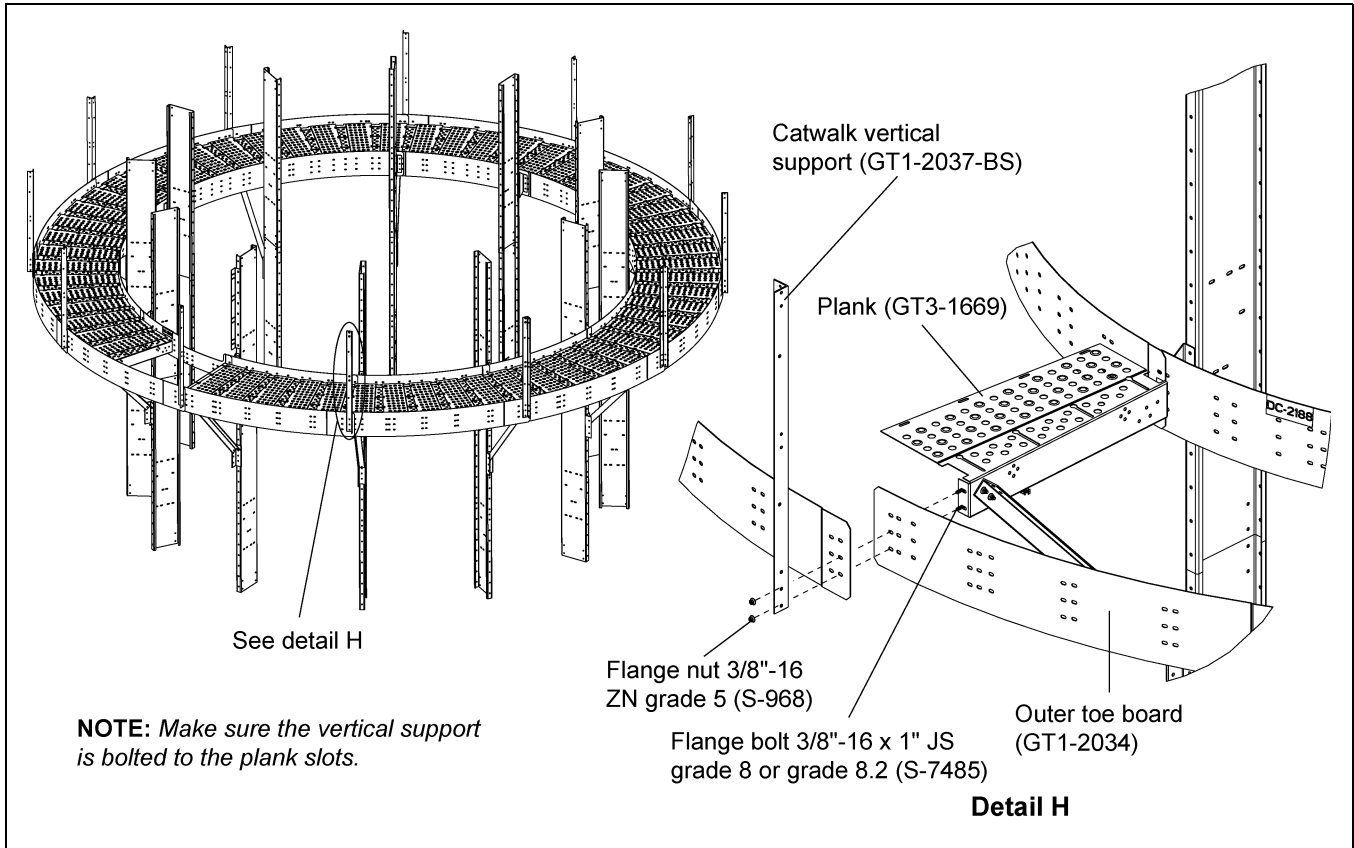
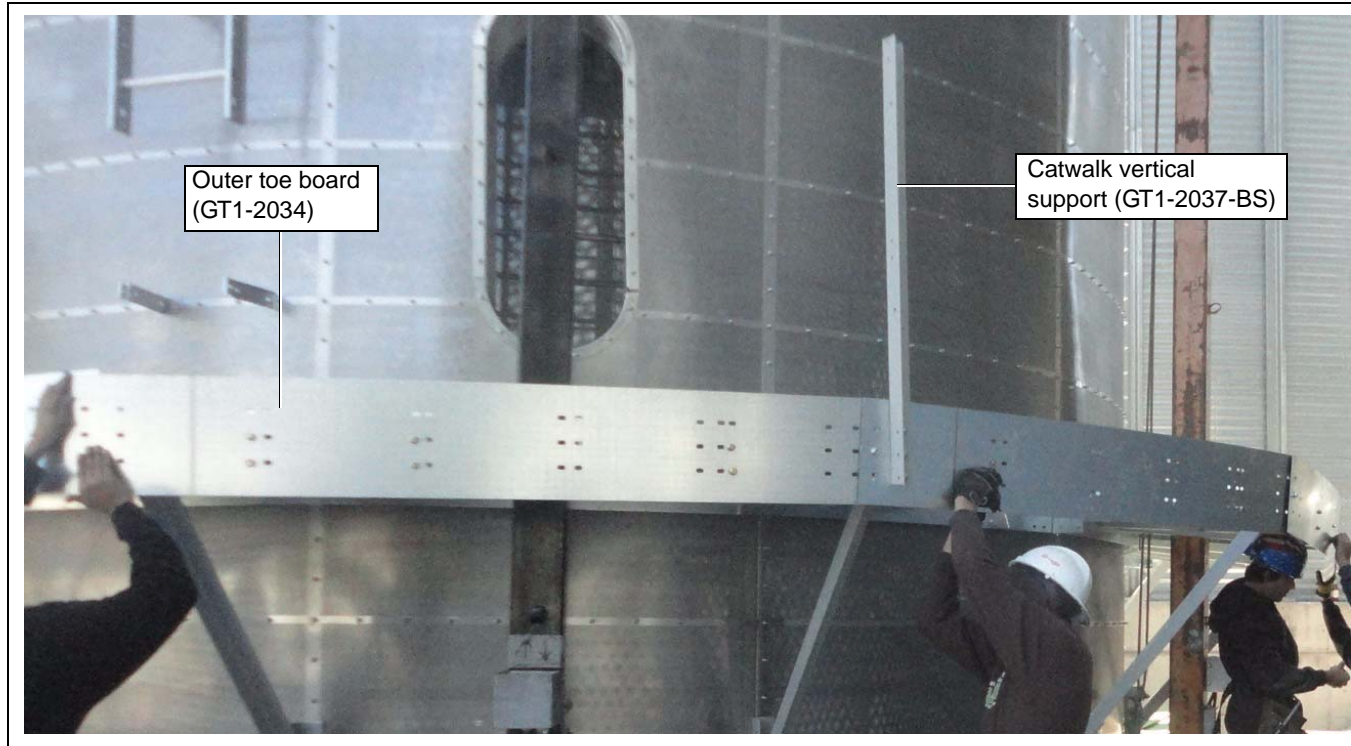

Figure 4R
Figure 4T
1. Install all the outer toe boards (GT1-2034) to the planks (GT3-1669). (*See Figure 4R.*)
2. When installing the outer toe board (GT1-2034) with planks (GT3-1669), install the catwalk vertical support (GT1-2037-BS) simultaneously at proper locations using 3/8"-16 x 1" JS grade 8 or grade 8.2 bolts (S-7485) and 3/8"-16 ZN grade 5 nuts (S-968). (*See Figure 4R and Figure 4T on Page 25.*)